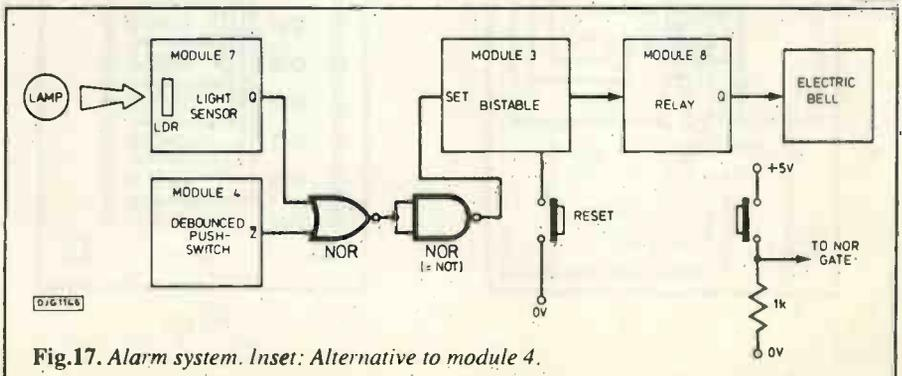

Fig. 17. Alarm system. Inset: Alternative to module 4.
2. Light-triggered alarm (Fig. 17): The alarm sounds when the light beam is broken or the alarm-button is pressed. It continues to sound until the reset button is pressed. Use a 74LS02 for the two NOR gates.